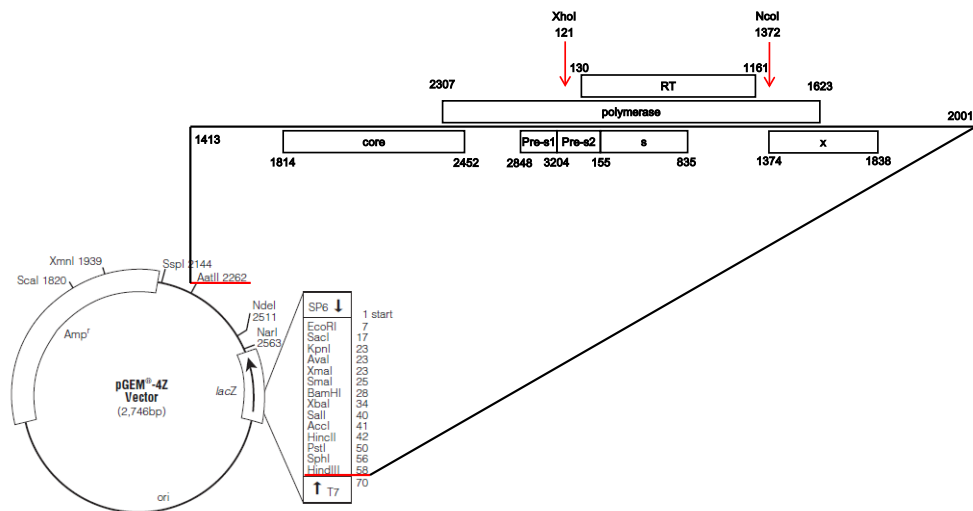

Figure 1. A plasmid map of the HBV 1.2-mer replicon with XhoI and NcoI sites highlighted
16. HBV 1.2 replicon (Figure 1)